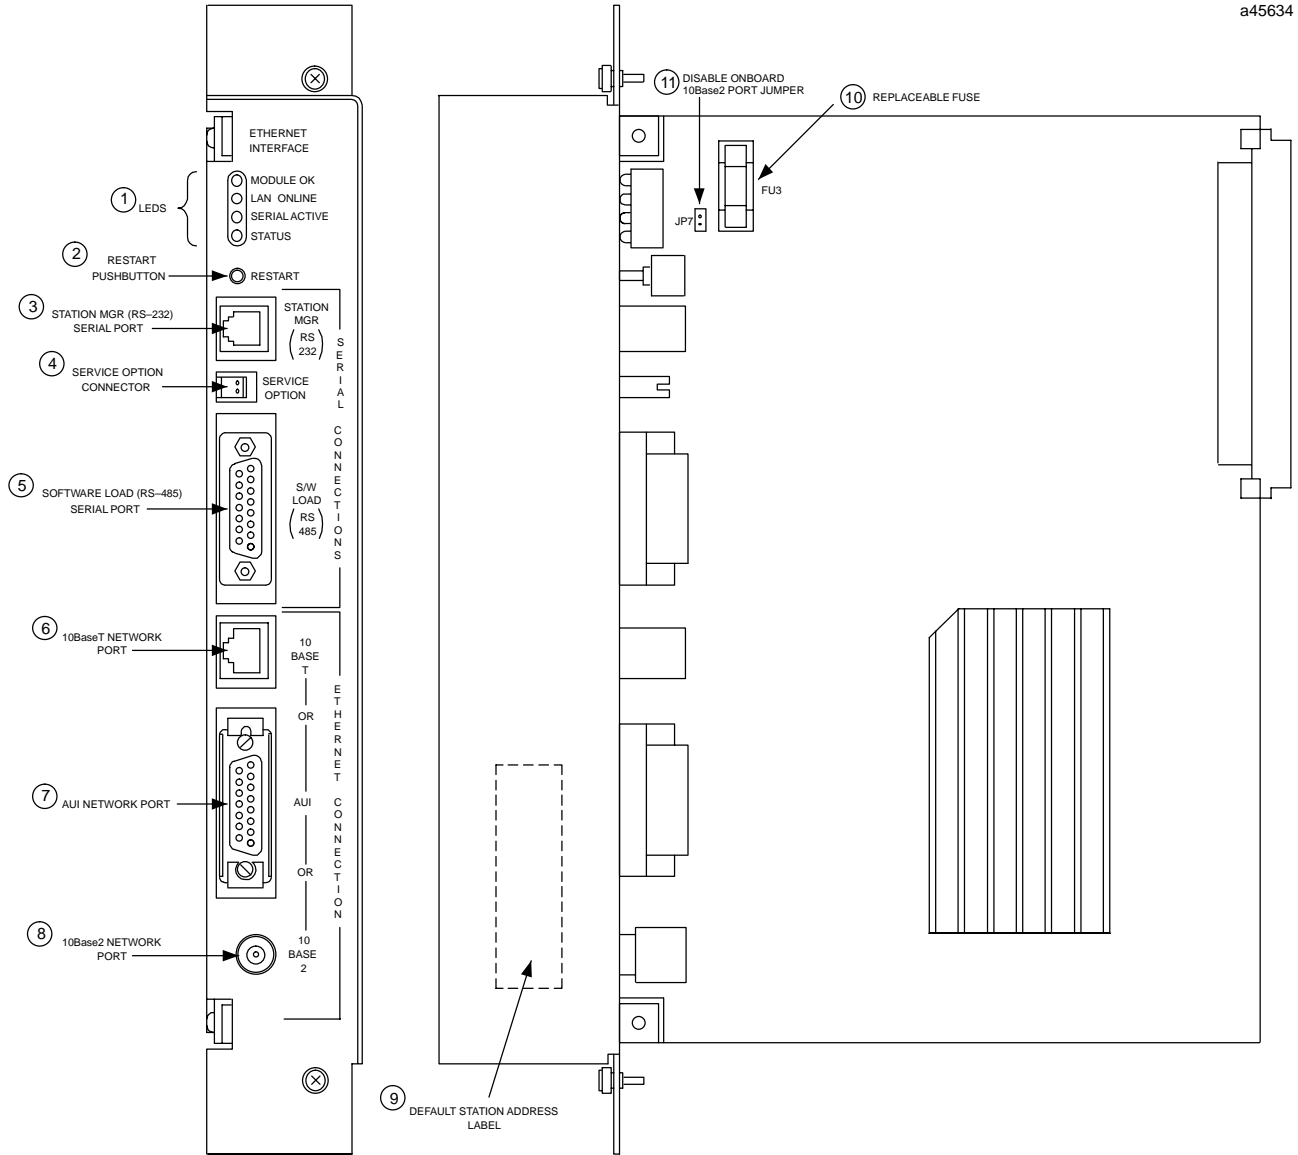

Figure 2. Ethernet Controller Board
Figure 2 shows the maintenance items and indicators of the Ethernet Interface (Type 2).
- Refer to Figure 2 for the location of the LED indicators, and Table 1 for a description of the indicators.